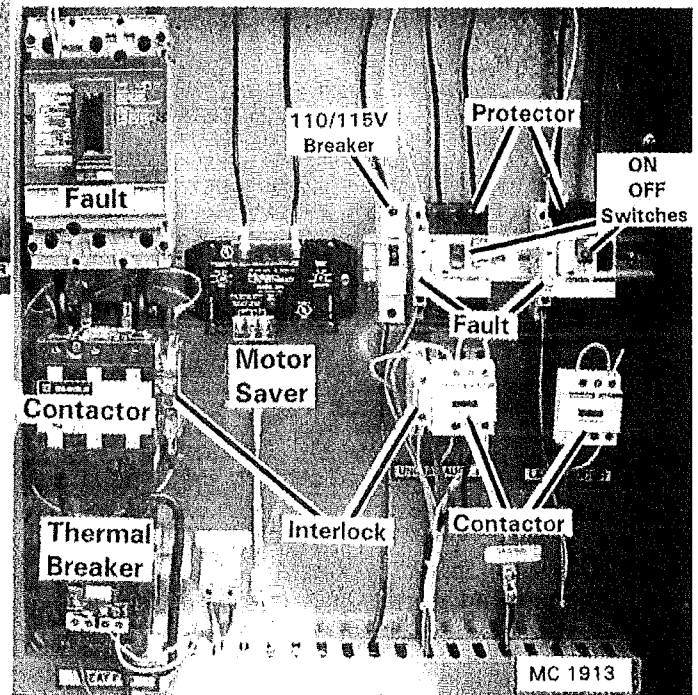

Fig. 10 - Fan, Level & Unload Auger Motor Controls - 1 Phase 230V (520/620 Shown)
- A. **Three phase motors** – Move the wire from terminal T1 to T3 and T3 to T1 on the level or unload auger motor contactor in the motor control cabinet. See Figure 10.